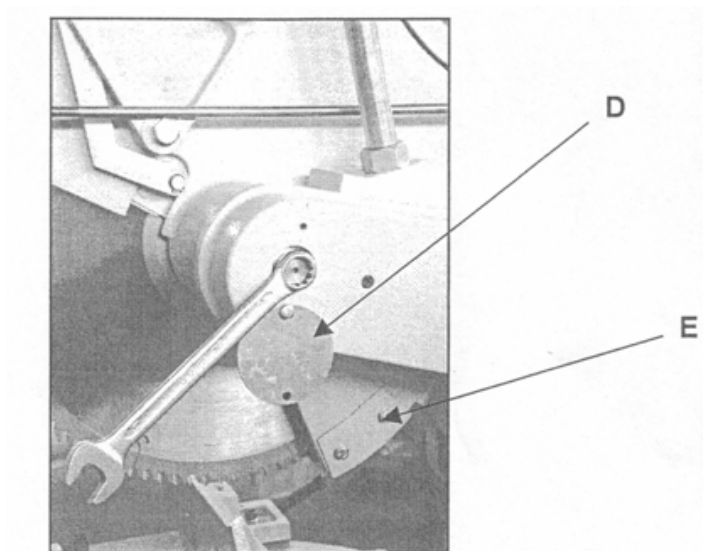

Fig. 12
4. Remove the lower blade protection cover (Fig. 12 part E) to facilitate the removal of the blade from its seat.
5. Remove the shaft cover (Fig. 12 part D). Insert a 17mm spanner to remove the blade counter plate screw.